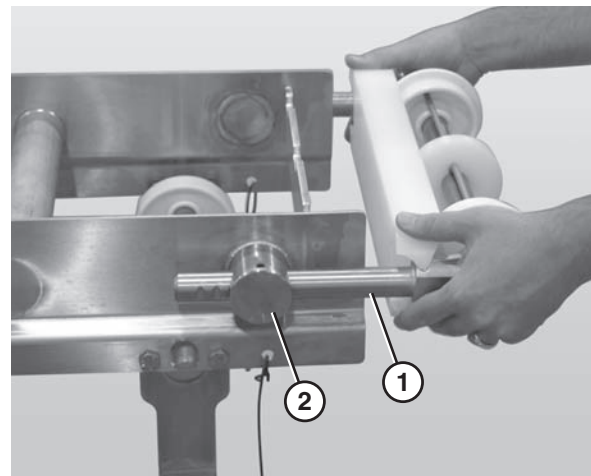

Figure 23
- Slide the bearing shafts (Figure 23, item 1) into the take up blocks (Figure 23, item 2).